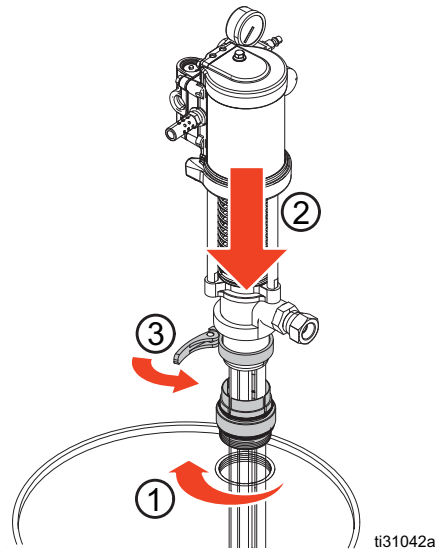

FIG. 8
5. Ensure the gasket is in place and screw the bung adapter securely into the bunghole of the drum (1). Insert the pump through the adapter (2) and lock it in place (3). See FIG. 8.